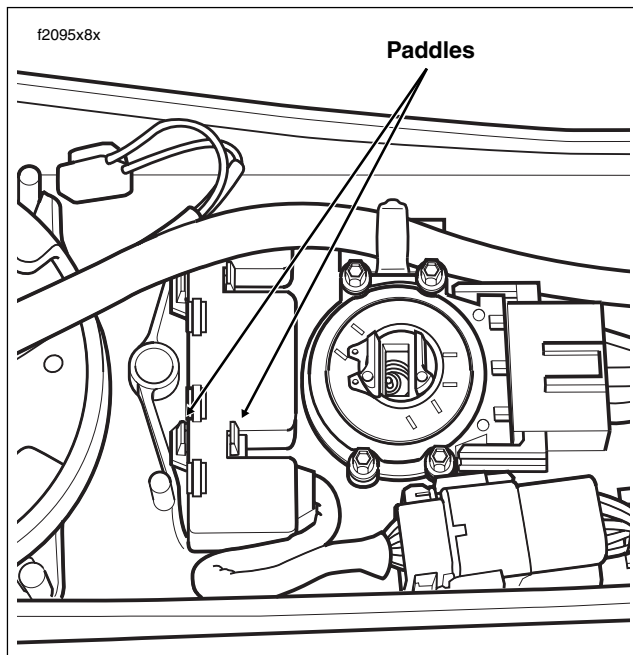

Figure 8-123. Release Paddles to Free Indicator Lights Assembly (FLHR/C)
- b. Using thumb and index finger, squeeze front and rear paddles on same side of assembly while rotating screwdriver. See Figure 8-123.